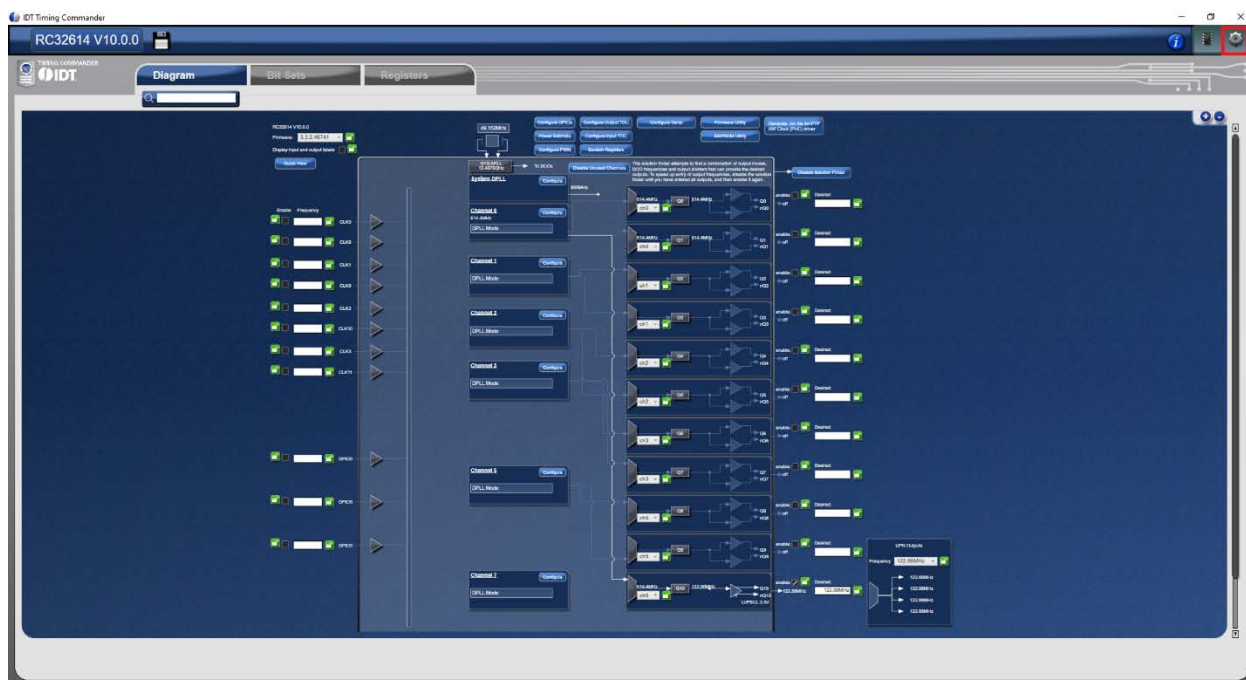

Figure 11. Timing Commander GUI with a Settings File Opened
4. The GUI window with RC32614 block diagram will open for configurations; or if “Open Settings File” is selected in Step 3 above, you will be prompted to browse and select an existing .tcs file and the personality file. When the configuration file is open, all configured values will be displayed, like that shown in Figure 11 below.